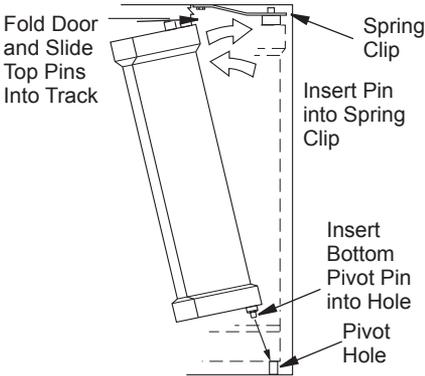

Figure 28 - Removing/Installing Bi-Fold Doors
1. Fold doors (fully open) and press up on upper door spring clip until top pin is free of the spring clip (see Figure 28). Tip door toward middle of fireplace opening and lift door out of the lower pivot hole.
1. With bi-fold doors completely folded, insert bottom pivot pin into pivot hole located near bottom corner of front face opening and swing door to vertical position making sure top pins slide into door track. Door is installed when top door pin snaps into spring clip (see Figure 28).